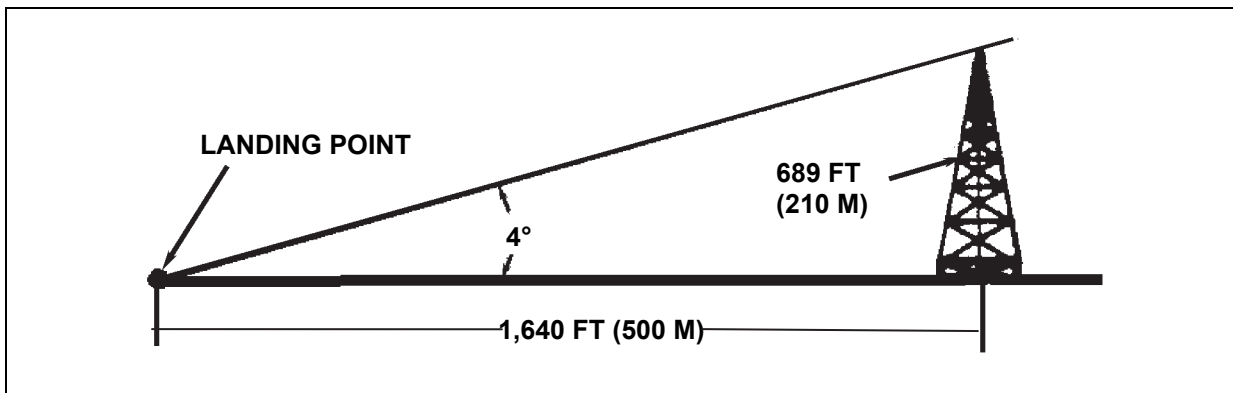

Figure 4-5. Maximum Angle of Approach (Night)
- Night Approach.** Within the night approach and exit path, the maximum obstruction angle should not exceed 4 degrees measured from the center of the landing point to a distance of 3,000 meters (9,843 feet) (figure 4-5). The maximum obstacle height at 3,000 meters is 210 meters (689 feet). The field expedient formula is that for every meter of vertical obstacle, you must have 14 meters of distance from the center of the landing point to the obstacle. That is, a landing point must be 280 meters from a 20-meter tree if the helicopter must approach or exit directly over the tree. Another night operation planning consideration is the helicopter approach and exit path area and the maximum obstacle height within that area. Remember, this criteria applies to both the approach path to the landing point as well as the exit path from the landing point. First we must define the area that is the approach and exit path.